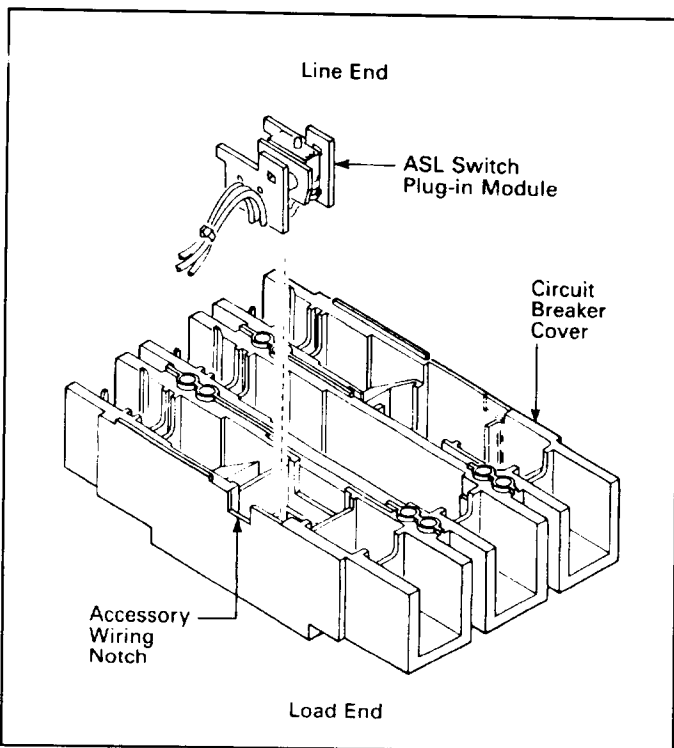

Fig. 2-5 ASL Switch Installation
- 2-10. With cover in inverted position (Fig. 2-5), position ASL switch plug-in module as shown and slide into mounting cavity in circuit breaker cover.